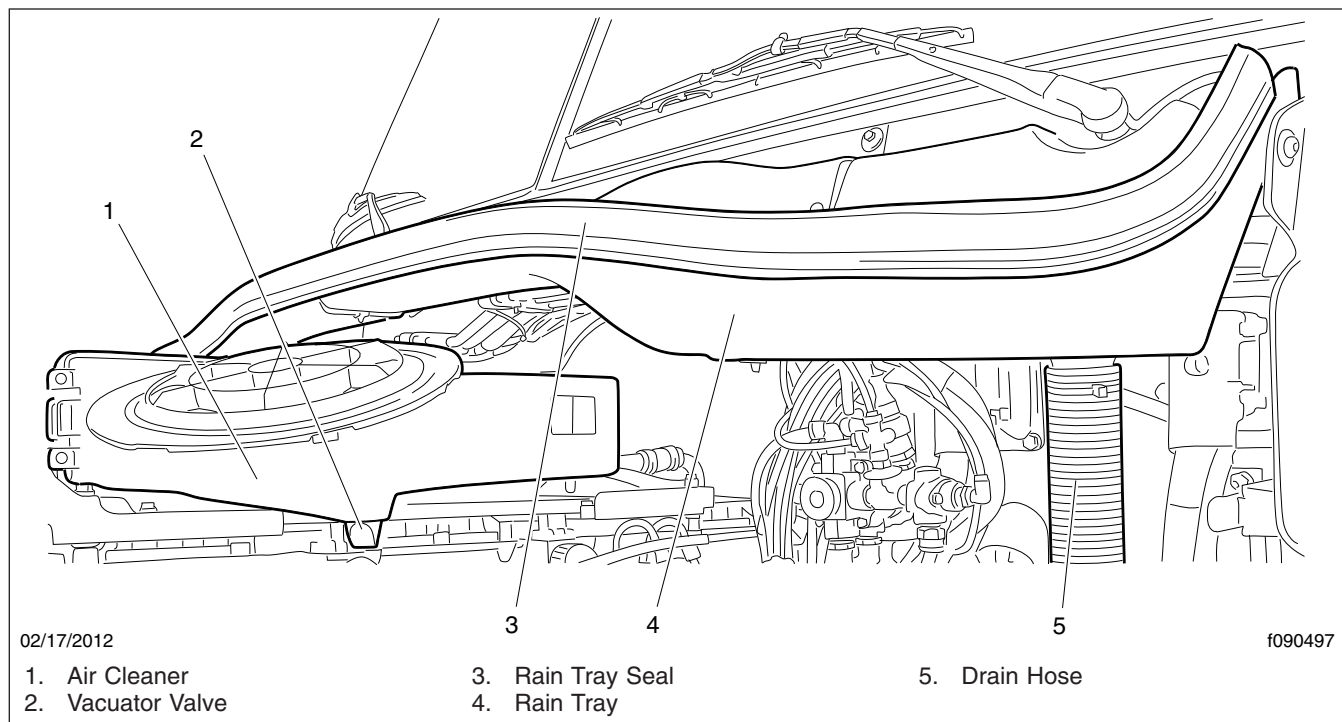
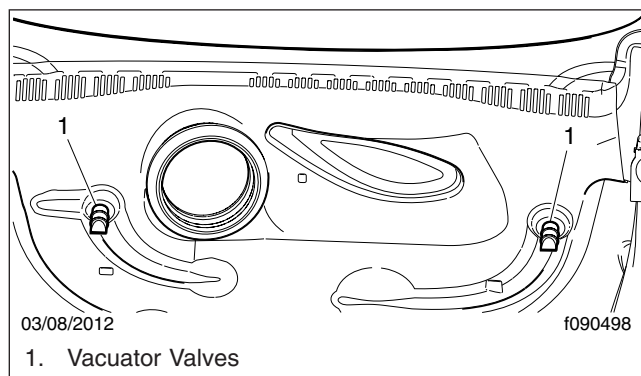

Fig. 20.8, Rain Tray Assembly
Fig. 20.9, Hood Interior
- 3.1 Inspect the vacuator valve(s) installed on the hood interior and air cleaner. Make sure the lips of each valve are undamaged and pliable, free of debris, and remain closed during inspection. See Fig. 20.8 and Fig. 20.9.